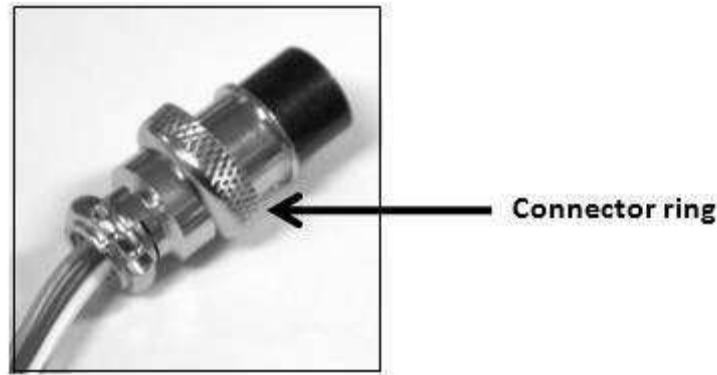

Figure 19 - Connector Ring
- e) Secure the remote connector plug to the terminal socket by screwing in the connector ring (**Figure 19**).